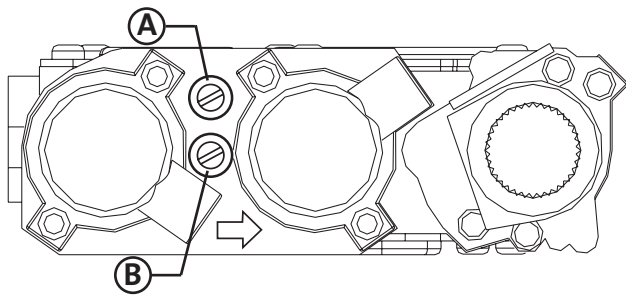

Figure 34. Pressure test points.
**Pressure Test:** Attach a manometer to the appropriate test point on the valve. See fig. 34. The gauge connections are located on the front of the valve. Connections are identified by: